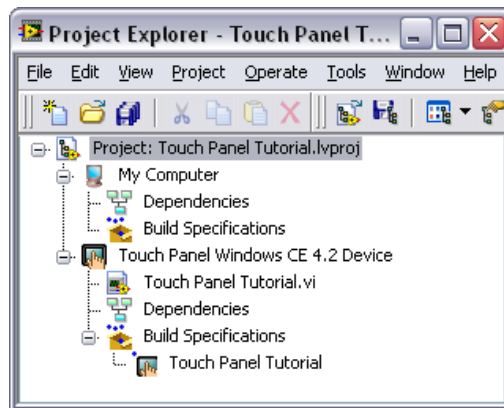

Figure 7. Project Explorer Window
6. Click the **OK** button. The build specification you just created appears in the **Project Explorer** window under the Touch Panel target as shown in Figure 7.